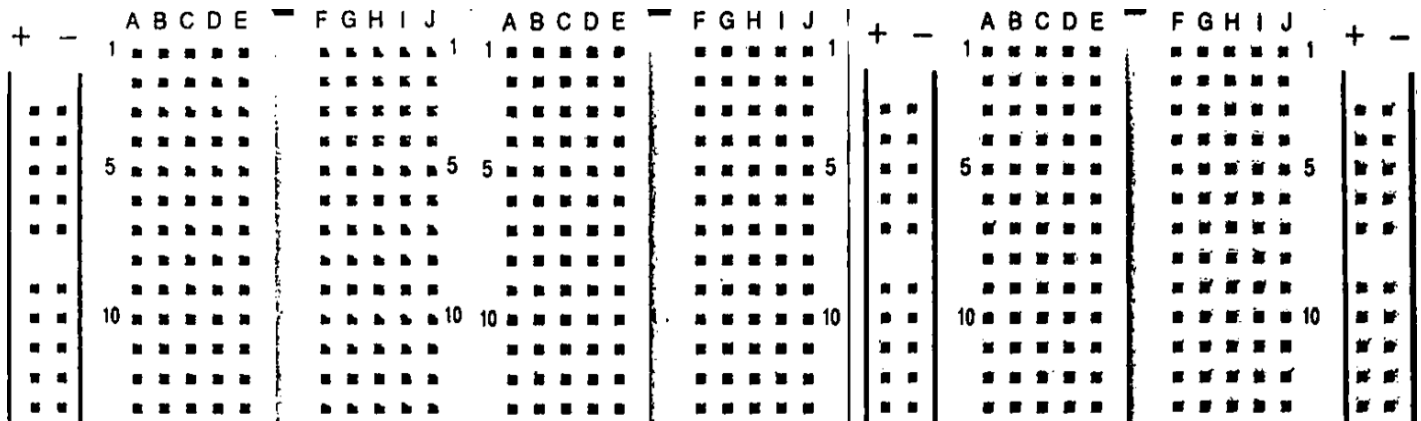

Figure 4
1.2. Sketch the internal connections in Figure 4 by drawing a line between all the socket holes that are electrically connected.